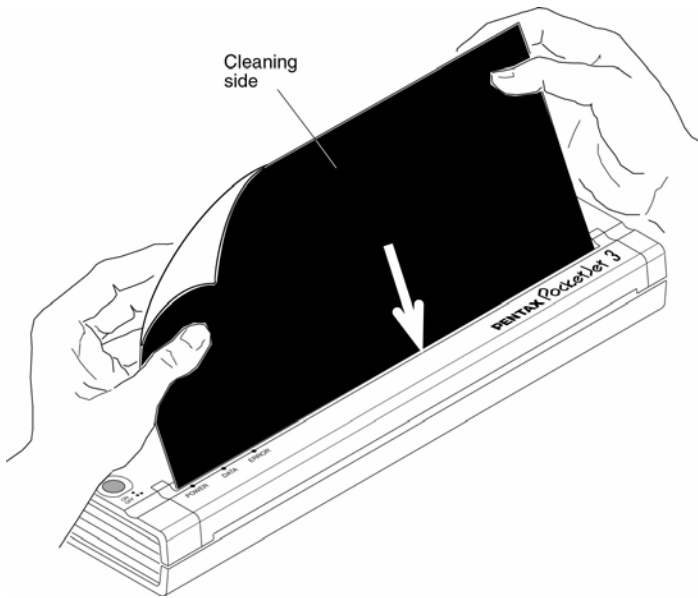

FIGURE 18. Cleaning the platen roller.
4. Insert the black cleaning cloth that came with the printer into the printer’s paper input slot with the rough black side, which contains the cleaning material, towards the front of the printer. See Figure 18. The printer pulls the Cleaning Cloth through.